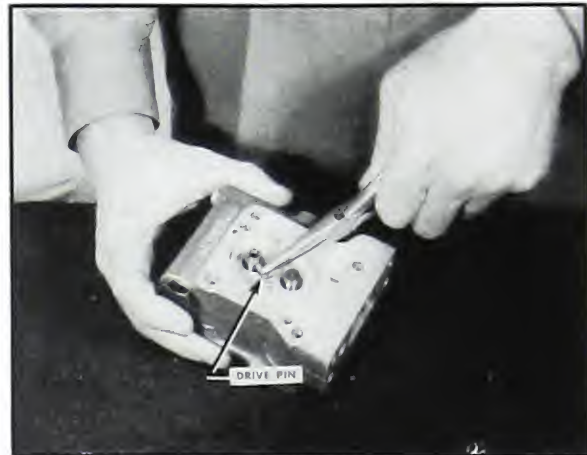

Fig. 5-299. Replace drive pin
5. Using two new gaskets, assemble the inlet connection, and tighten securely to No. 1 housing. Refer to **Fig. 5-299.**
5. Replace No. 1 drive gear key and the idler and drive gears. Fig. 5-299.